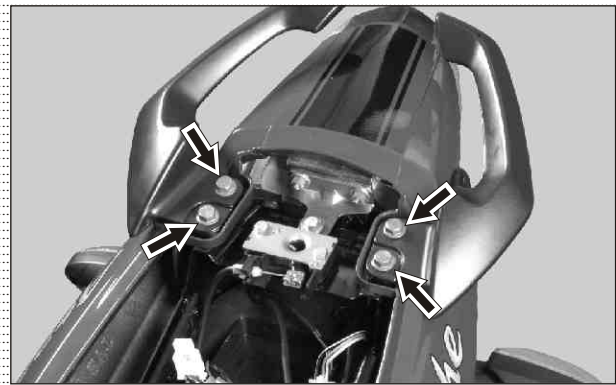

Fig. 5.52
- Remove pillion handle by unscrewing the mounting bolts. (M8x25 - 4nos) (Fig. 5.52)